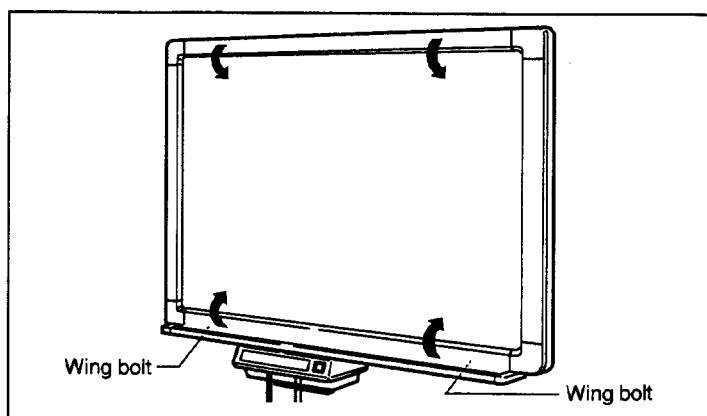

Fig. 5-3
- 1) Remove 2 thumb screws, as shown in Fig. 5-3, and remove the lower and upper frame covers.
**Note:** If the print board is mounted on the optional stand, remove the upper and lower frame covers as shown in Fig. 5-3.